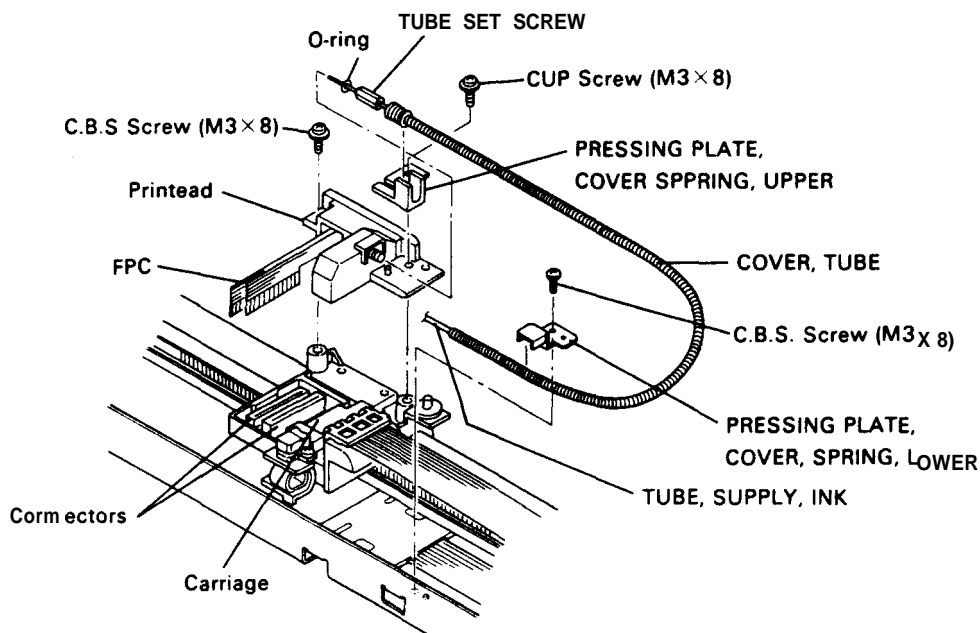

Figure 3-9. Printer Head Replacement
- [Step 4] Mount the printhead on the carriage and fasten the printhead with 2 screws (CP (P) (M3X 8)) (See Figure 3-9.)